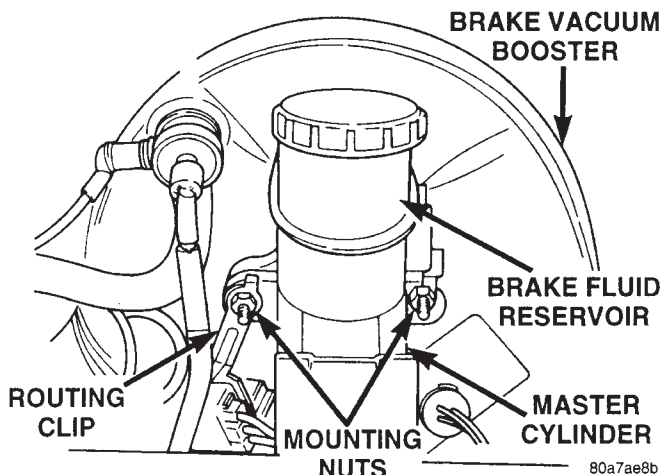

**Fig. 84 Master Cylinder Mounting To Vacuum Booster**
(3) Using Mopar, Brake Parts Cleaner or an equivalent, clean the area where the master cylinder attaches to the vacuum booster.
(4) Remove the 2 nuts (Fig. 84) attaching the master cylinder to the vacuum booster.
(5) Remove the routing clip and chassis brake tubes (Fig. 84) (as an assembly) from the mounting stud for the master cylinder.
(6) Slide the master cylinder straight off its mounting studs on the vacuum booster.
(1) Position master cylinder assembly on studs of power brake unit, aligning push rod on power brake vacuum booster with piston of master cylinder.
(2) Install the routing clip and chassis brake tubes (Fig. 84) on the inboard mounting stud for the master cylinder.
(3) Install the 2 master cylinder to power brake vacuum booster mounting nuts (Fig. 84). Tighten both nuts to a torque of 28 N·m (250 in. lbs.).